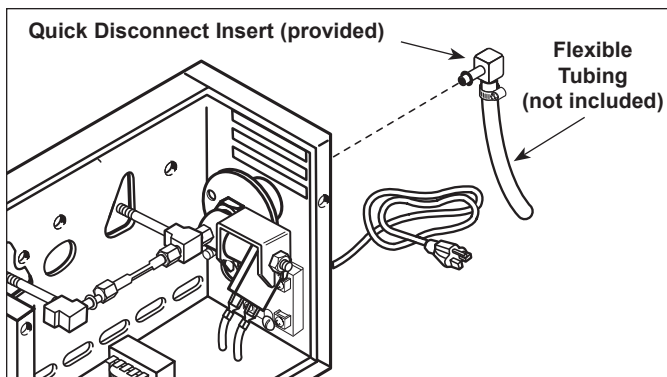

Figure 2. Connecting Water Supply (back of unit)
2. Push the Quick Disconnect Insert into the female fitting on the back of the unit until it clicks (Figure 2).